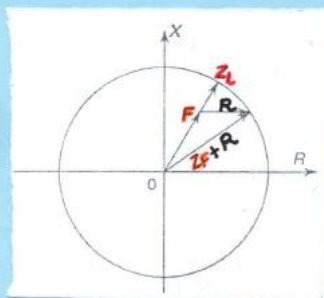

Fig 2.30 Effect of R_{arc} on impedance relay
* \rightarrow Fig 2.30 shows the effect of arc resistance on an impedance relay.